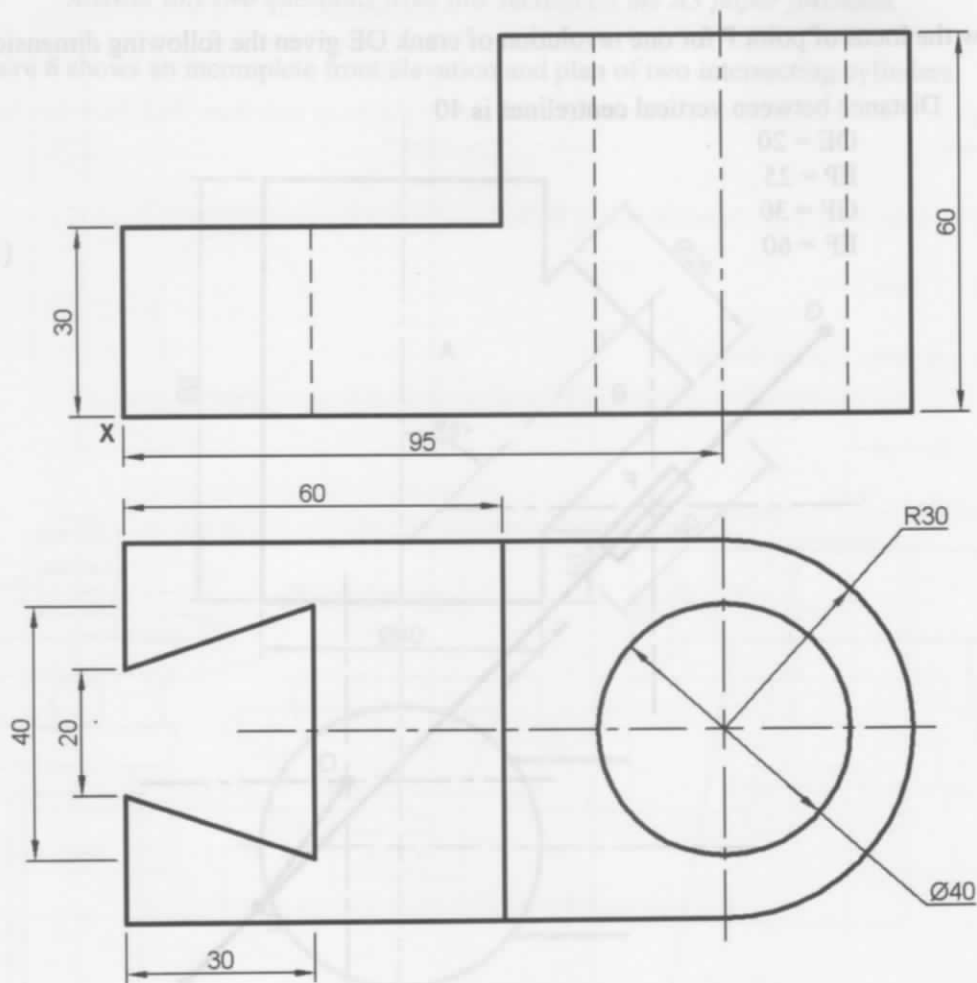

Figure 8
14. Figure 8 shows two views of machined block drawn in first angle projection. Draw the block, Full Size in isometric projection taking X to be the lowest point. (15 marks)